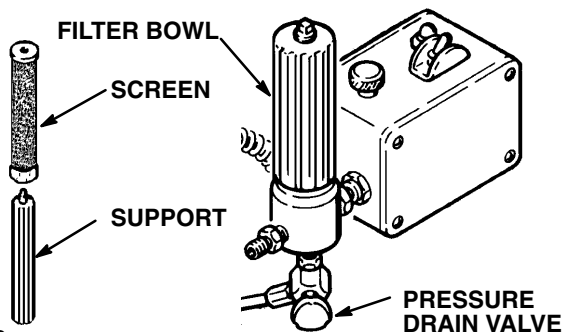

Fig 6
2. Remove the filter bowl and screen; see manual 307–273. Clean the screen. Install the bowl (only) to flush it. Close the pressure drain valve. See Fig 6.